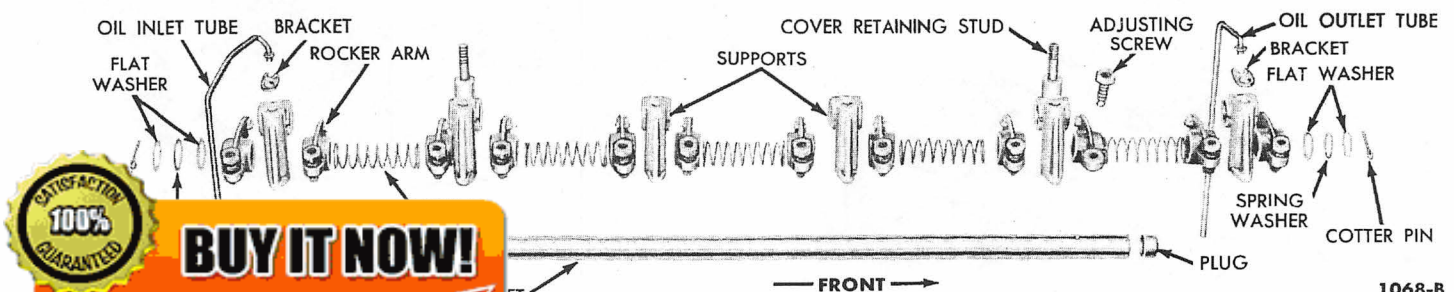

Fig. 16—Valve Rocker Arm Shaft Assembly
4. Install the rocker arms, supports, and springs (Fig. 16). Install the remaining flat washers with the spring washer between them, and install the cotter pin.